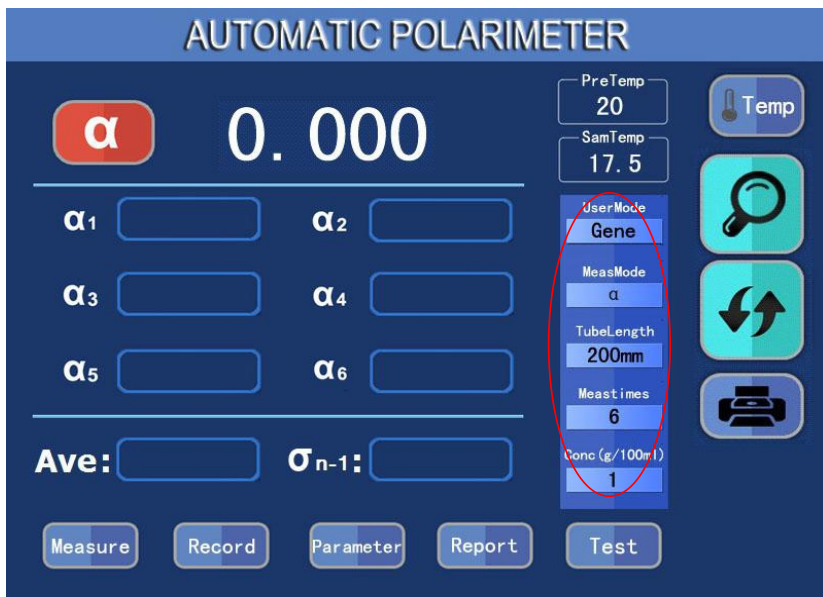

Figure 6
(A) On this page, the user can select measurement modes: see Figure 6